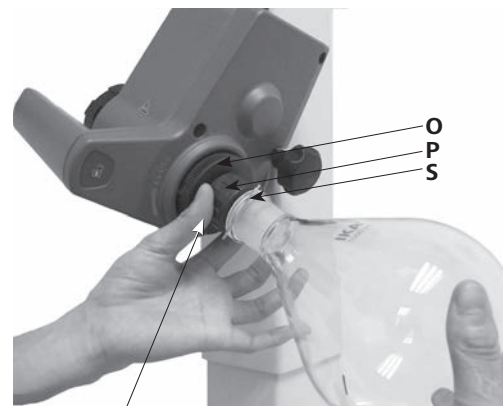

Fig.15b
- Turn the plastic nut (**P**) with the clip (**S**) counterclockwise until the clip can be put on the flange. (Fig. 15b)